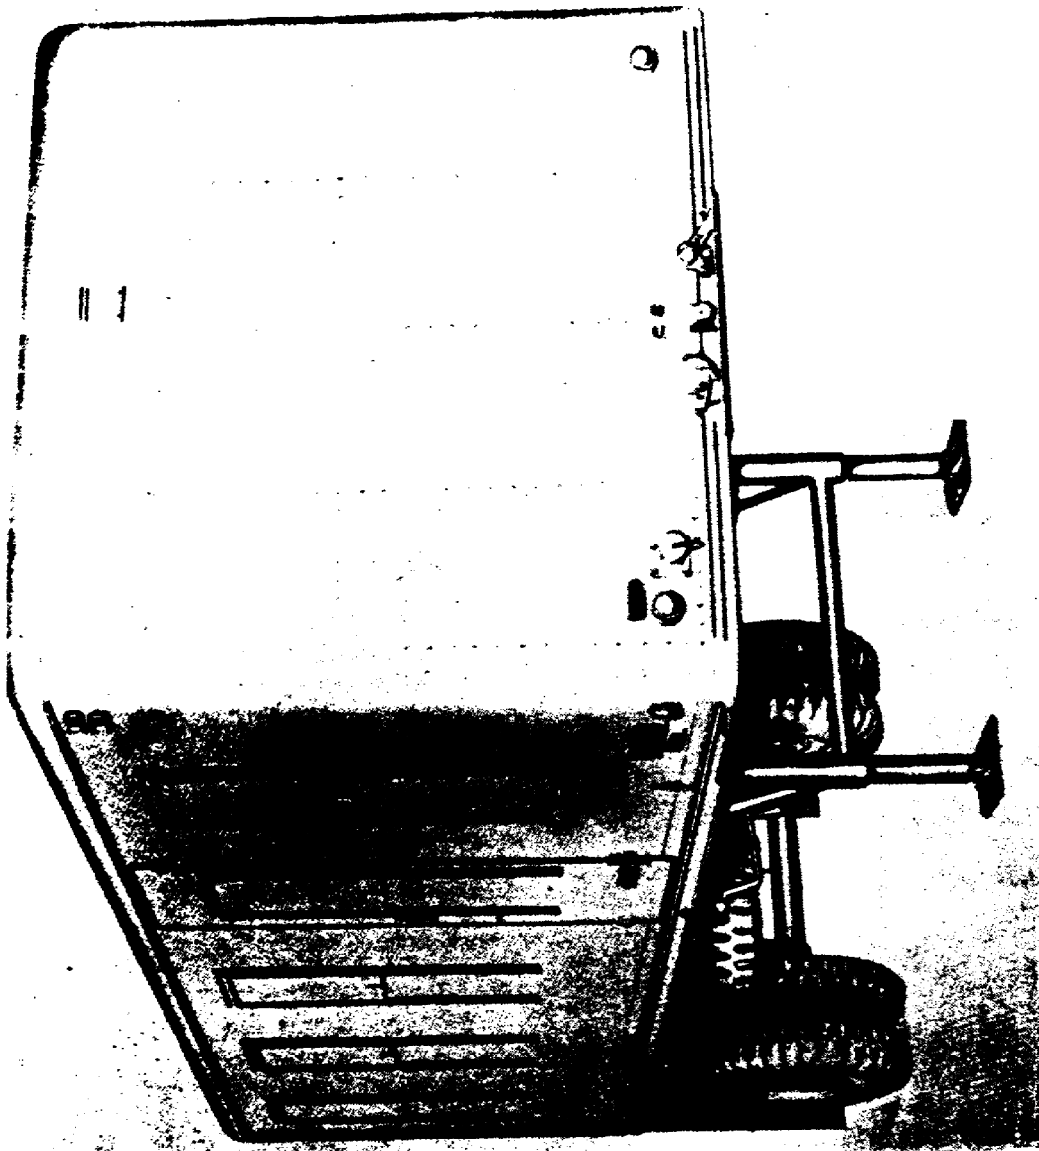

Figure 6B. M146 semitrailer shop van, 6-ton, 2-wheeled, M146-right front view.
3. M146 SEMITRAILER. The 6-ton, 2 wheeled, shop van semitrailer M146 (fig 6B) is designed to provide quarters for the field shop equipment. It is intended for use on highways or cross country with a 2-1/2-ton, 6x6, M48 truck tractor or equivalent as the towing vehicle.